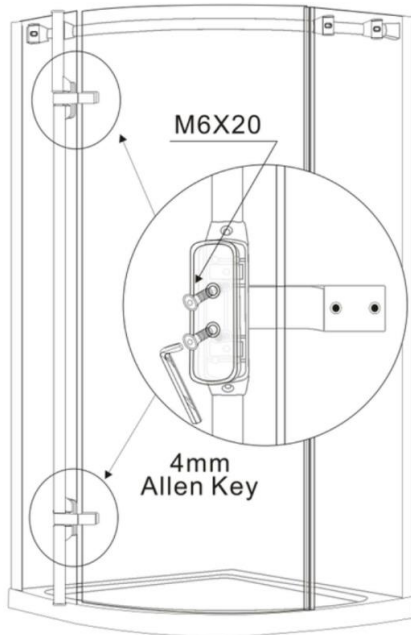

Figure 12
- * Position the door glass and hinge post onto the small fixed glass panel(I), line up the holes and use Allen Key to fasten the screws M6x20 through the holes on the fixed glass from inside of the enclosure, see figure 12